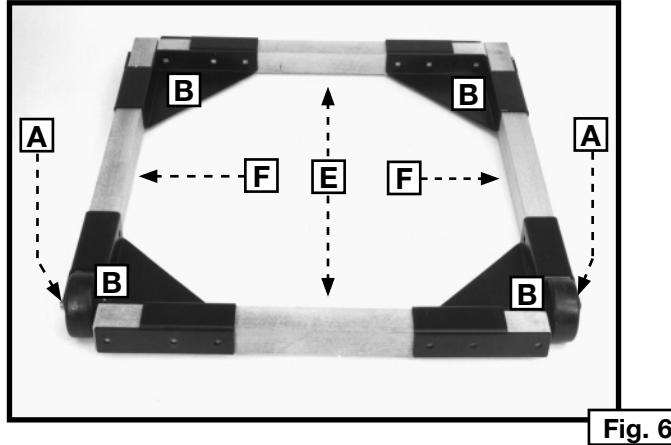
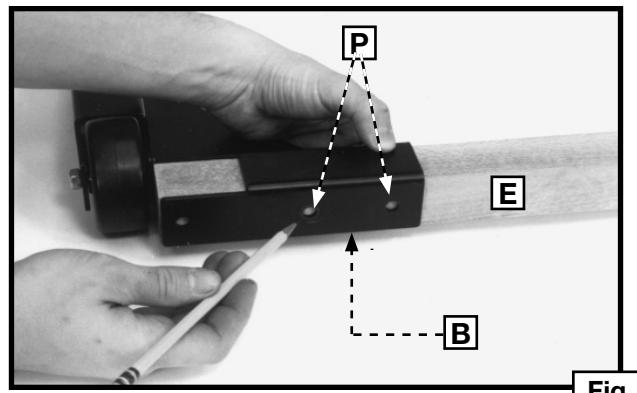

Fig. 6
Fig. 7
6. Set the pieces into the corner brackets (B) Fig. 6 as they would be positioned in the final mobile base assembly. Make certain that the side pieces (F) Fig. 6 are approximately 1/2" away from both wheels (A). Measure the inside dimensions of the mobile base set-up (Fig. 6). The measurements should closely match the dimensions of the machine. If adjustments are necessary, cut new end or side boards to fit, or adjust the position of the boards in the brackets.
7. Position the end and side boards (E and F) Fig. 6 inside and flush against the top of the end brackets (B) Fig. 7. Mark the locations where you will drill 7/16" diameter through-holes in the wooden base boards.
NOTE: Drill four holes through the four inner areas of each bracket, two of which are shown at (P) Fig. 7. Drill a total of sixteen holes to support the boards in the four brackets.